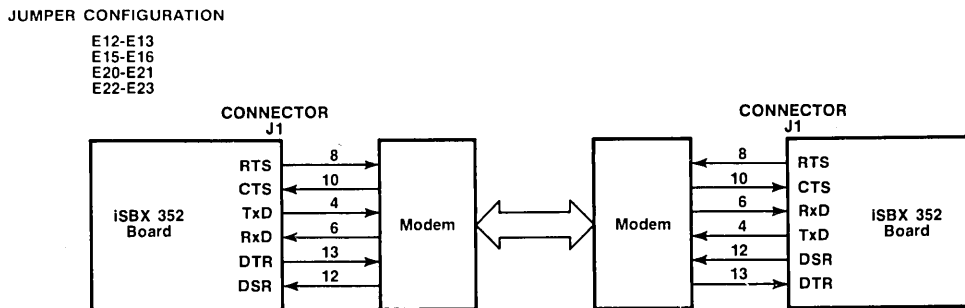

Figure 2-3. Self-Clocking Point-to-Point Modem Interface Configuration Example-RS232C
**2-13. SELF-CLOCKING MODE INTERFACE WITH MODEM.** Although the iSBX 352 board is compatible with the HDLC/SDLC communication line protocols, which are primarily designed for synchronous data communication, the iSBX 352 board can be use in an asynchronous mode interface when configured as shown in Figure 2-3. The option of using or not using a modem is available for both RS232C and RS422/449 interfacing applications.